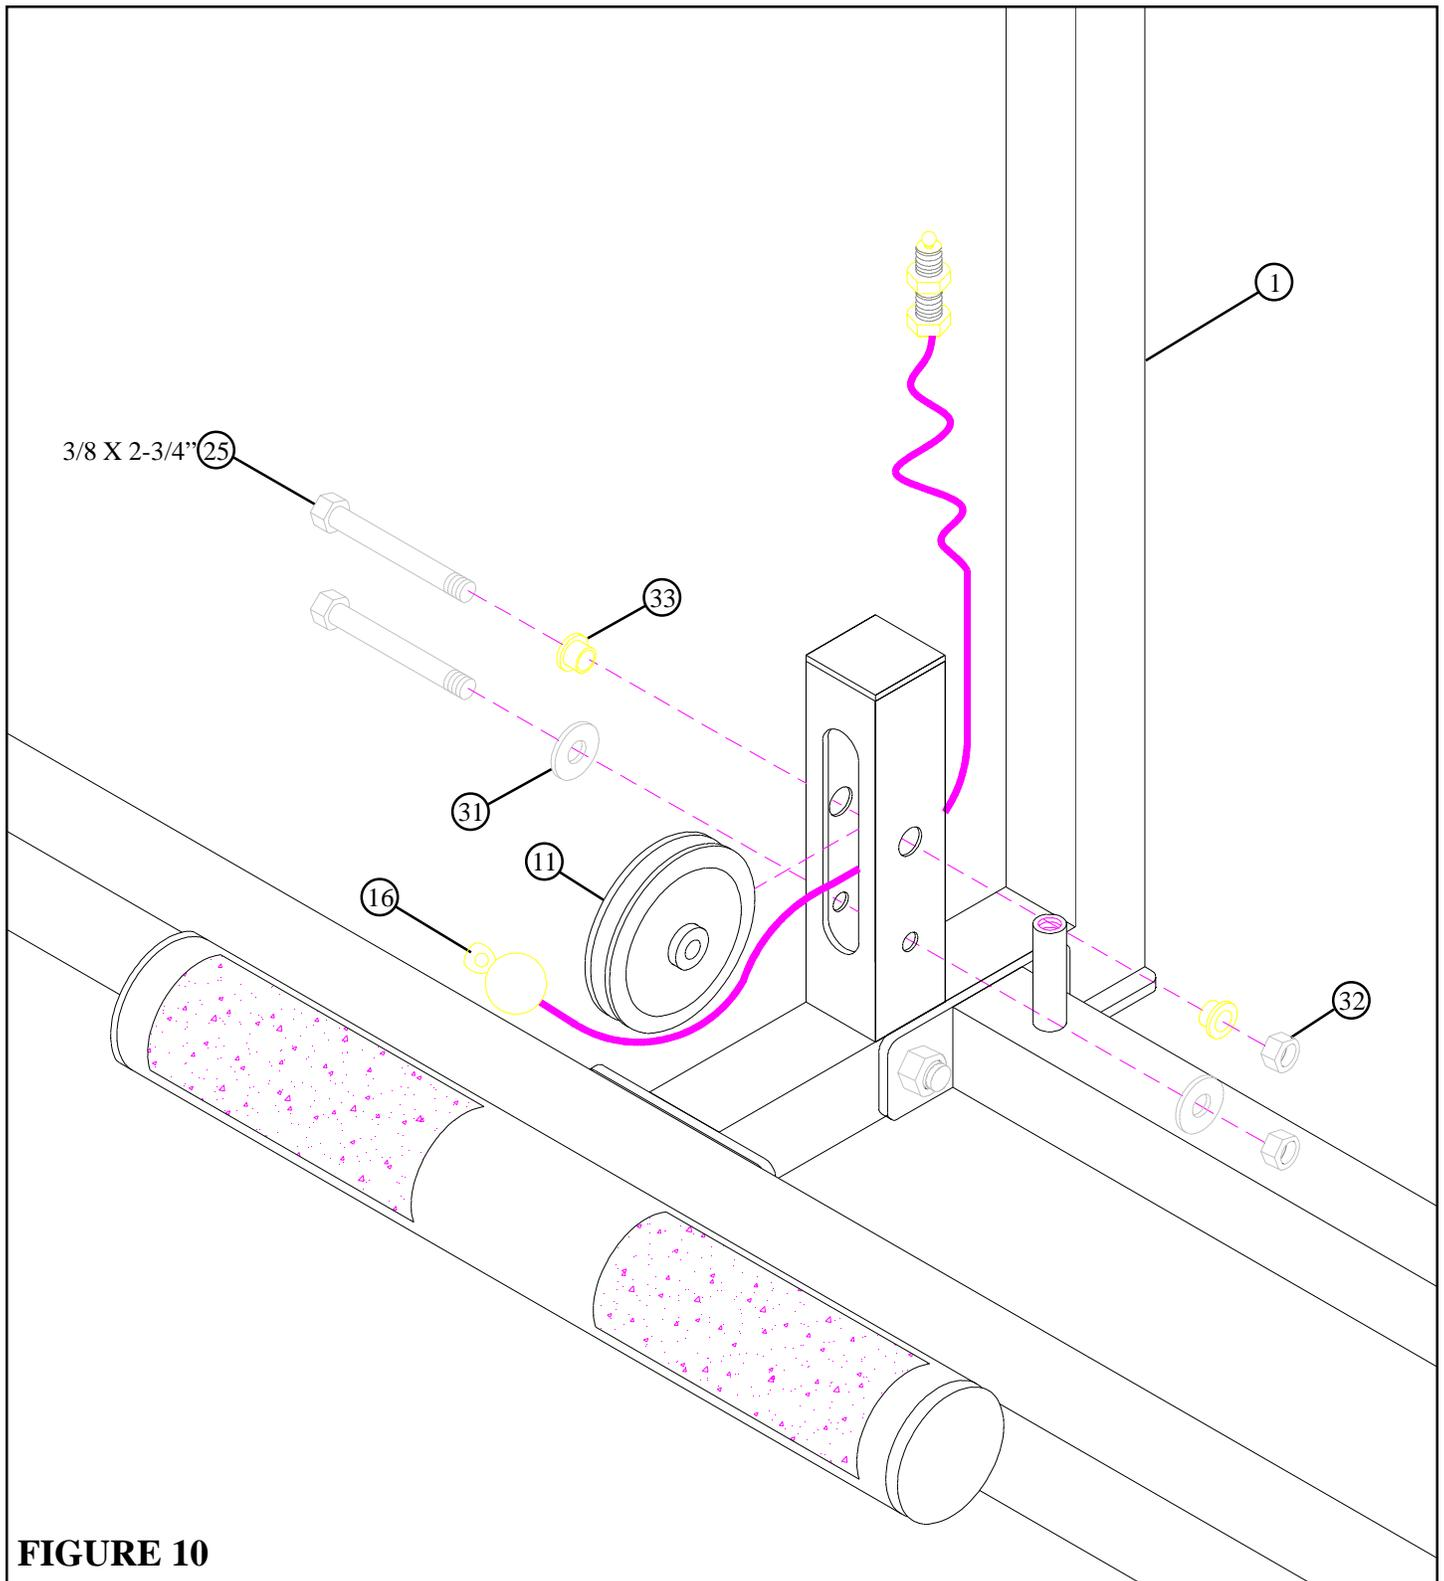

FIGURE 10
- Loop the ball end of the LOW ROW CABLE (16) around one 4-1/2" PULLEY (11) and **SECURELY** assemble the 4-1/2" PULLEY (11) to the UPRIGHT (1) using two 3/8 X 2-3/4" BOLTS (25), two 3/8" FLANGE SPACERS (33), two 3/8" WASHERS (31), and two 3/8" LOCKNUTS (32). (NOTE: Make sure CABLE is routed between the PULLEY and the retaining bolt as shown in FIGURE 10.)